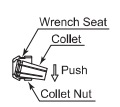
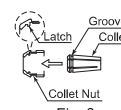
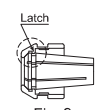

Fig. 7
Fig. 8
Fig. 9
- The collet and collet nut are secured by a groove in the collet and a flange in the collet nut. To remove the collet hold the collet nut in one hand and push diagonally down on the collet. The collet should be released. (Fig. 7).
- To install the collet, hold the collet at a slight angle, and insert it into the collet nut (Fig. 8). Press the collet in the collet nut by positioning the collet in the collet nut and pressing down on flat surface (Fig. 7). Be sure to fully engage the latch inside the collet nut into the groove on the collet's outer circumference area (Fig. 9).